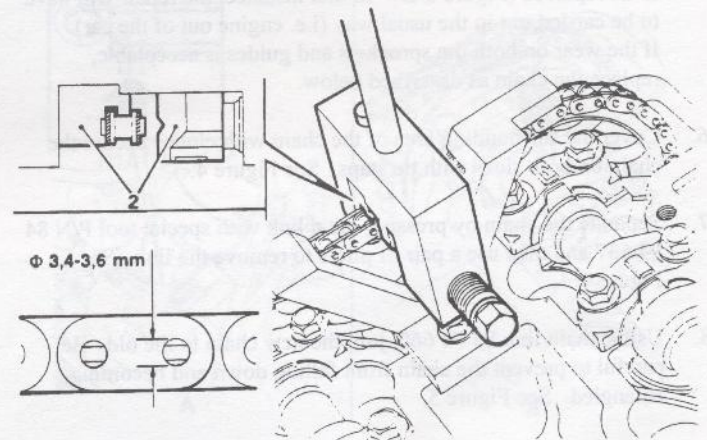

Figure 9: Measuring diameter of chain link pins.
16. Check the riveting by using a micrometer to measure the diameter of the chain link pins. The correct measurement is 3.4-3.6mm. See Figure 9.